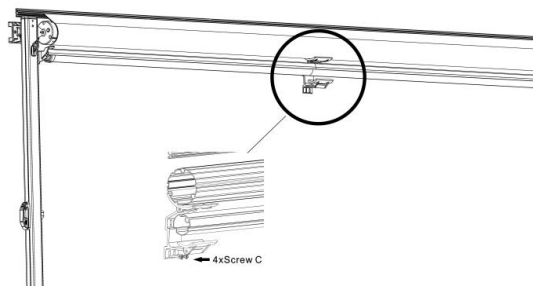

Figure C24
3.8 If the B1SC is equipped with a center cradle, install it on the RV body at the middle of the awning. It should support both roller tubes when the awning is closed and secured with screw C. (Figure C24)